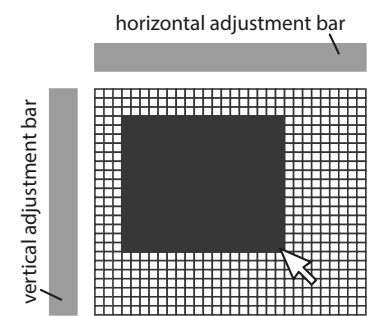

Fig. 82
- Next click and hold down the left mouse button and move the cursor (within the editing area) to create a box, **Fig.82**.